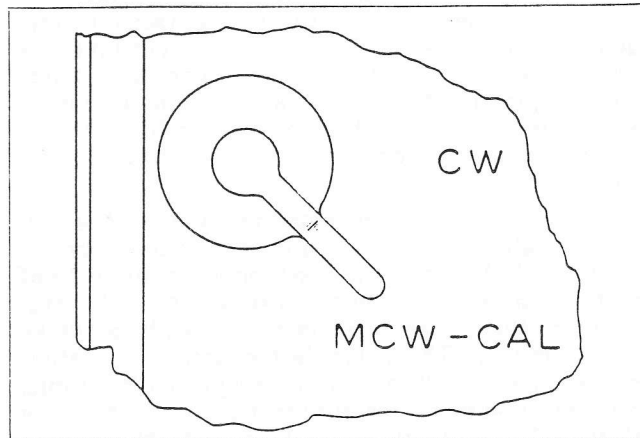
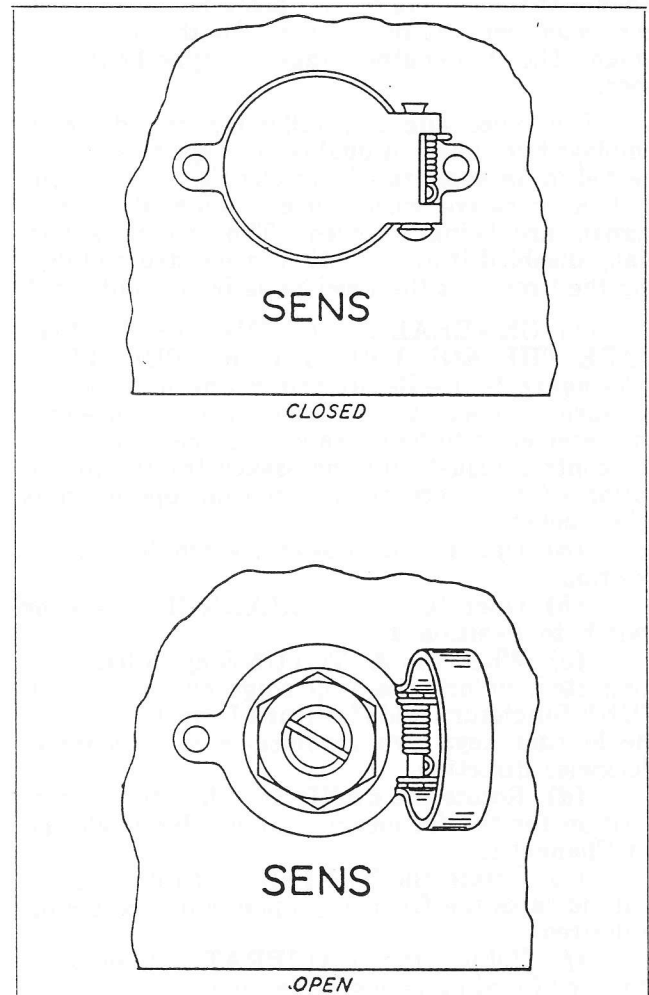

Figure 2-10. CW-MCW-CAL Selector Details
Figure 2-11. Sensitivity Adjustment Details
(6) MCW-CAL-CW SWITCH.—(Refer to figure 2-10). When it is desired to receive either mcw or voice modulated signals this switch should be set at the MCW-CAL position. When the switch is in the MCW position the avc circuit is operative and a variable "T" pad is connected between the output of the audio amplifier and the PHONES jack. When the switch is set at the CW position the avc circuit is partially disabled, the output of the audio amplifier is coupled directly to the phones jack, and the volume is controlled by a cathode potentiometer as explained above.
(7) VOLUME CONTROL.—This control operates two sections of variable resistors, a bridged "T" pad and a potentiometer. The "T" pad is connected between the output of the audio amplifier and the PHONES jack whenever mcw reception is selected. When cw reception is selected, a potentiometer is connected in the cathode circuits of the r-f amplifier and first i-f amplifier tubes. When mcw reception is selected the potentiometer is shorted out.
(8) SENS CONTROL.—The threshold sensitivity is controlled by the screwdriver adjustment marked SENS. (See figure 2-11.) This control is connected in series with the cathodes of the r-f, mixer and i-f stages in the receiver for the purpose of adjusting the sensitivity of the receiver to operate most satisfactorily under conditions of electrical interference. A dust cover is placed over the panel opening behind which this control is located.